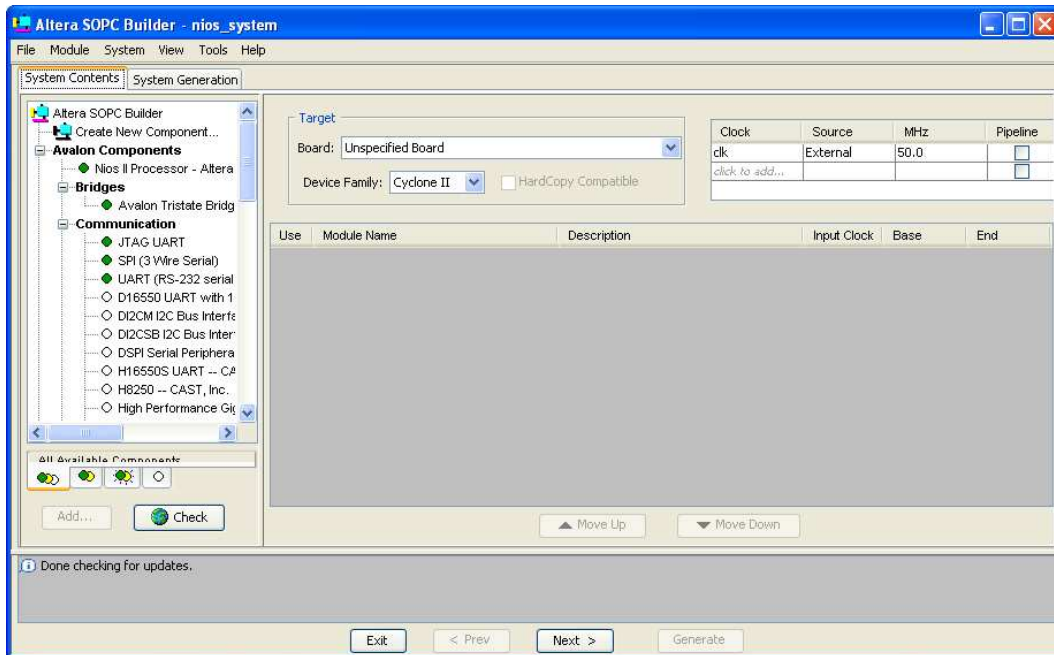
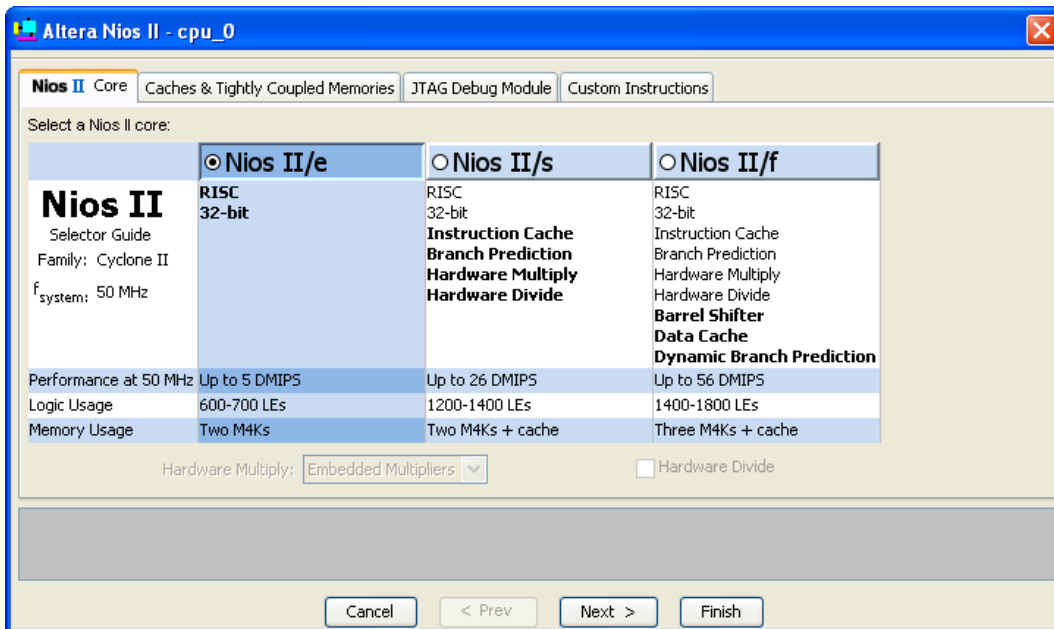
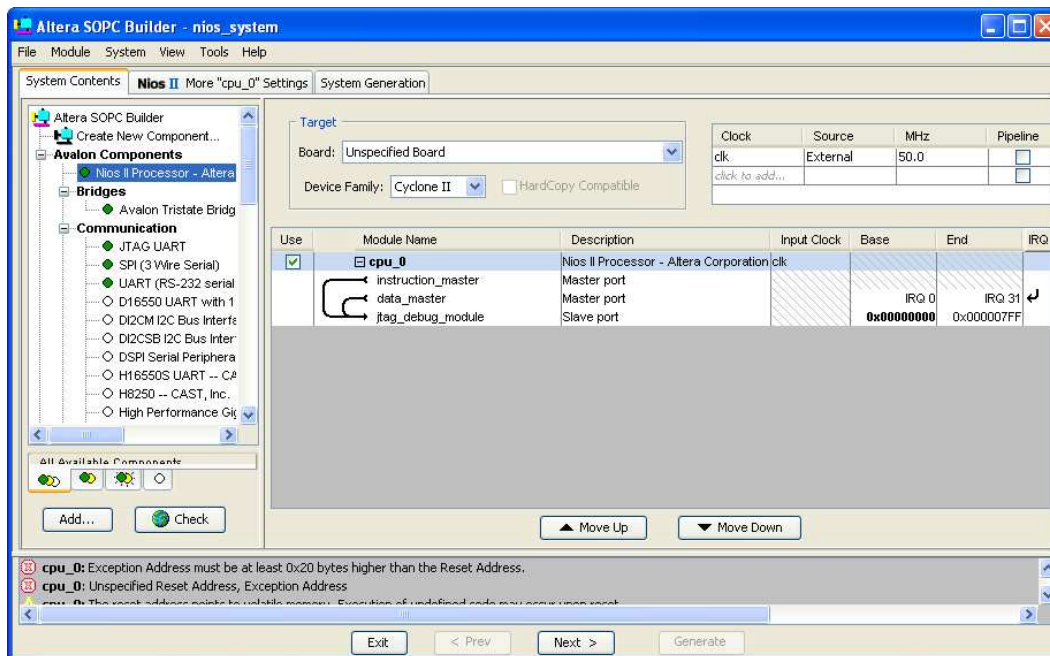

Figure 5. The System Contents tab window.
Figure 6. Create a Nios II processor.
Figure 7. The defined processor.
2. Select Tools > SOPC Builder, which leads to the pop-up box in Figure 4. Enter *nios_system* as the system name; this will be the name of the system that the SOPC Builder will generate. Choose Verilog as the target HDL, in which the system module will be specified. Click OK to reach the window in Figure 5.
3. Figure 5 displays the System Contents tab of the SOPC Builder, which is used to add components to the system and configure the selected components to meet the design requirements. The available components are listed on the left side of the window. Before choosing our components, examine the area in the figure labeled **Target**. A drop-down list is provided that allows some available Altera boards to be selected. It is not necessary to select a board, and since the DE2 board is not included in the list leave the selection as **Unspecified board**. Next, check the setting for the **Device Family** and ensure that **Cyclone II** is selected.
4. The Nios II processor runs under the control of a clock. For this tutorial we will make use of the 50-MHz clock that is provided on the DE2 board. As shown in Figure 5, it is possible to specify the names and frequency of clock signals in the SOPC Builder display. If not already included in this list, specify a clock named *clk* with the source designated as **External** and the frequency set to 50.0 MHz.
- On the left side of the window in Figure 5 select Avalon Components > Nios II Processor - Altera Corporation and click Add, which leads to the window in Figure 6.
- Choose Nios II/e which is the simplest version of the processor. Click **Finish** to return to the window in Figure 5, which now shows the Nios II processor specified as indicated in Figure 7. There may be some warnings or error messages displayed in the SOPC Builder Messages window (at the bottom of the screen), because some parameters have not yet been specified. Ignore these messages as we will provide the necessary data later. Observe also that a new tab called **Nios II More “cpu_0” Settings** appears, which allows further configuration of the processor - we will not use it.